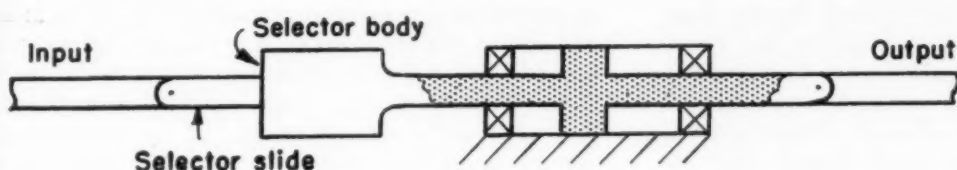

Fig. 127—Simple mechanically linked servo arrangement of a selector body mounted on the piston rod
By far the most important type of servo system, and the only one which will be considered here, is the positional servo—that in which the controlling and controlled variables are displacements of mechanical members. The simplest and often the most convenient way of measuring the error is by means of a mechanical linkage. To avoid a discussion in abstract terms, the problem will be illustrated with actual solutions for the case of hydraulic servos, consisting of a selector and cylinder, pressure fluid being continuously available. If the selector body is mounted on the cylinder piston rod and the selector lever or slide is connected to the input linkage, as shown in Fig. 127, the desired objective is achieved since the actual degree and sense of opening of the selector depend on the error, or the difference between motions of the input link and cylinder and the latter will be actuated until
**Problems of Hydraulic Servos:** The selector and cylinder combination discussed in the preceding section is but one of the many possible components which could be used for the purpose. The linkage of Fig. 127 is probably limited in practice to a cylinder and selector system or to close equivalents thereof, but the other linkages shown apply in principle to any system. In such systems the selector is replaced by a general controlling element and the cylinder by a general power element. In hydraulic servo practice, the power element—motor or output element—can hardly be anything but a cylinder or a hydraulic motor plus reduction gear. The only two types of hydraulic position servo of practical interest at the time